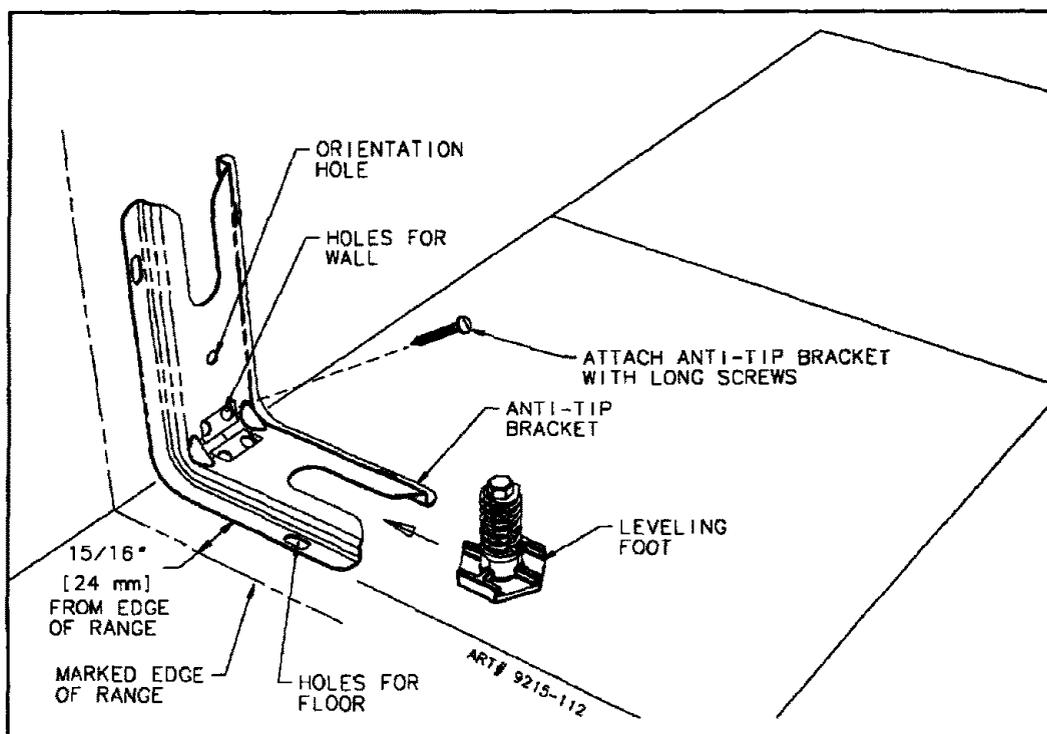

FIGURE 5
STEP 1 - Locating The Bracket (See Figure 5)
- Place the BRACKET 15/16" from the marked "EDGE" toward center of opening and against the back wall, as shown in figure 5, with orientation hole against wall.
- Use the bracket as a template and mark the required holes, as shown in figure 5 for the type of construction you will be using.
- Floor:** Locate the center of the two holes identified in figure 5 as "HOLES FOR FLOOR". Drill a 1/8" pilot hole in the center of each hole (a nail or awl may be used if a drill is not available). Secure the ANTI-TIP bracket to the floor with the two screws provided. Proceed to Step 3.
- Wall:** Locate the center of the two holes identified in figure 5 as "HOLES FOR WALL". Drill an angled 1/8" pilot hole in the center of each hole as shown in figure 6. (A nail or awl may be used if a drill is not available). Secure the ANTI-TIP bracket to the wall with the two screws provided as shown in figure 6. Proceed to STEP 3.
- Suitable screws for concrete construction can be obtained at the hardware store. Drill the required size hole for the hardware obtained into the concrete at the center of the holes identified in figure 5 as "HOLES FOR FLOOR". Secure the ANTI-TIP bracket to the floor. Proceed to STEP 3.